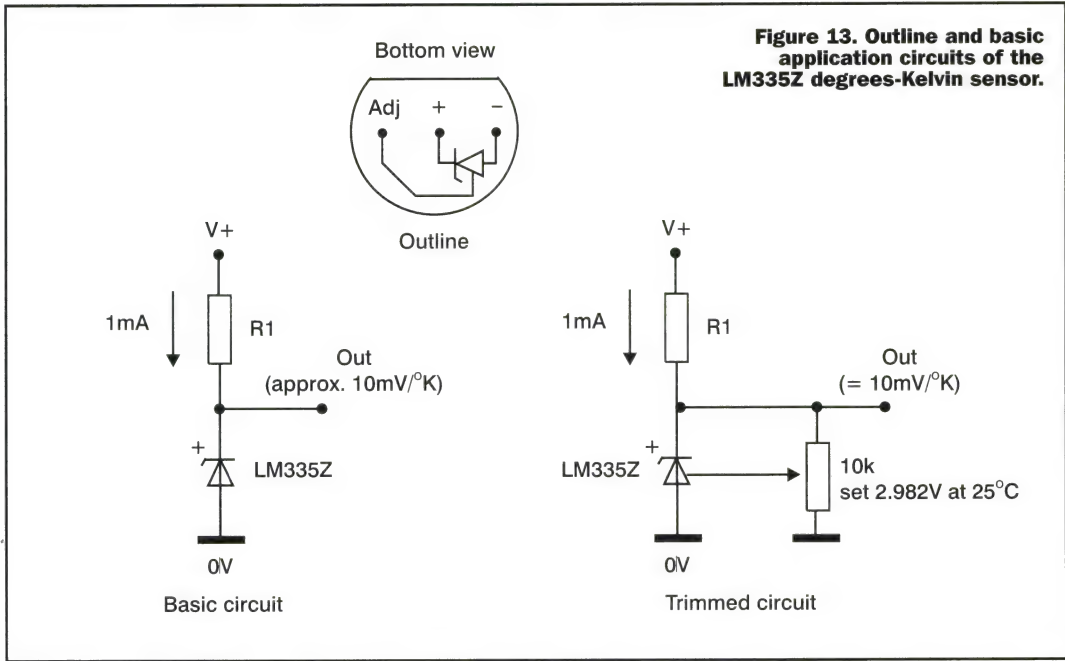

Figure 13. Outline and basic application circuits of the LM335Z degrees-Kelvin sensor.
2.732V at 0°C , or 2.982V at $+25^{\circ}\text{C}$). Figure 13 shows the IC's outline and simple ways of using the device in either the basic or the 'trimmable' (precision) mode; note in these circuits that the R1 value is chosen to set the IC's current at about 1mA. Figure 14 shows how the basic circuit can be modified for 1mA operation (via the LM334Z constant-current generator) when using a wide-range supply.